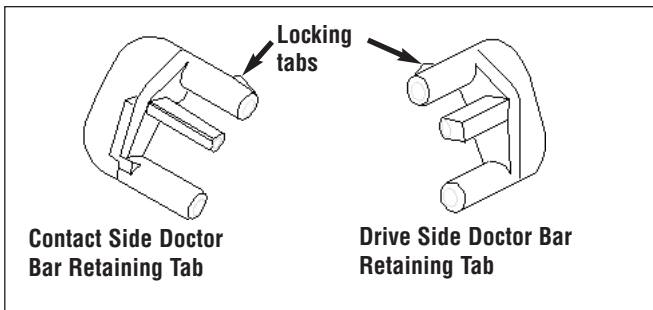

Figure 11
2. Using care not to damage, slide the Doctor Bar Retaining Tabs off each end of the Hopper. Set aside until the reassembly process. See Figure 11.